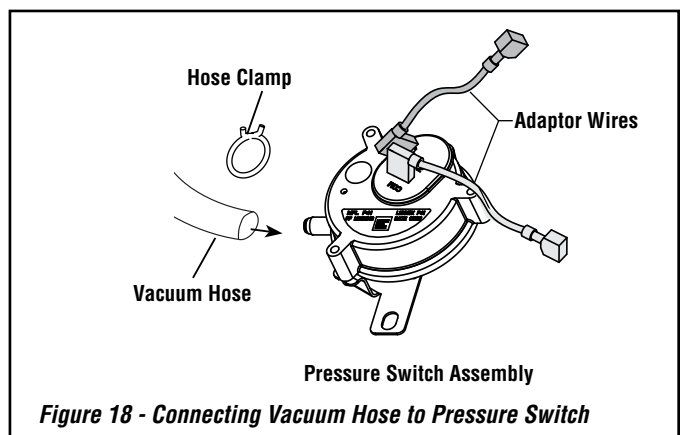

Figure 18 - Connecting Vacuum Hose to Pressure Switch
- 9.1 At the **Proflame-2 Control Module**, disconnect the two (2) joined yellow harness wires (male and female connector normally connected together on the wire harness attached to the X5 connector of the **Proflame-2 control module**). Connect the two (2) white **adaptor wires** [#12] and [#13] with the 90° female connector ends to the provided **pressure switch assembly** [#4] (**Figure 18**). Join the yellow wires to the opposite end of the white wires.
- 9.6 Secure the **vacuum hose** [#2] to the inlet port on the **pressure switch** [#4] with one of the provided **hose clamps** [#10] (**Figure 18**).